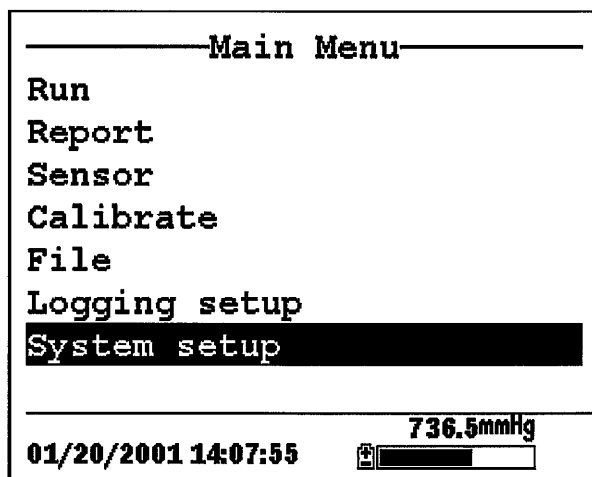

Figure 10.1 Main Menu
2. Use the arrow keys to highlight the **Data filter** selection. See Figure 10.1 Main Menu.
2. Use the arrow keys to highlight the **ID** selection. See Figure 10.1 Main Menu.
2. Use the arrow keys to highlight the **GLP Filename** selection. See Figure 10.1 Main Menu.
2. Use the arrow keys to highlight the **TDS Constant** selection. See Figure 10.1 Main Menu.